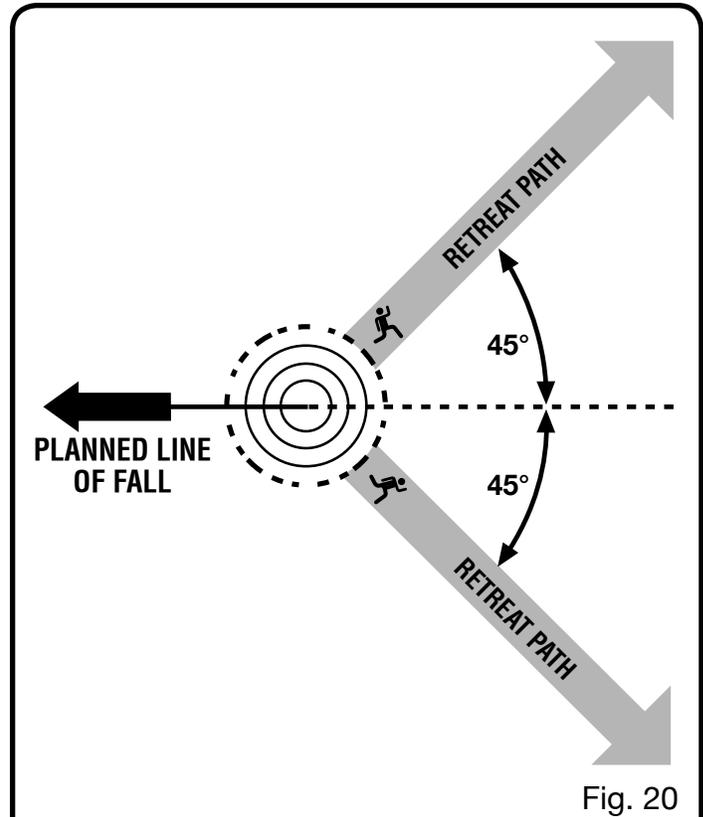

Fig. 20
See Figures 20 - 23.
- Before any cuts are started, pick your escape route (or routes in case the intended route is blocked); clear the immediate area around the tree and make sure there are no obstructions in your planned path of retreat. Clear paths of safe retreat should extend back and diagonally (45°) to the rear of the planned line of fall. When the tree begins to fall, you should retreat away from the direction of fall along a retreat path and at least 20 feet away from the trunk in case it kicks back over the stump. *See Figure 20.*